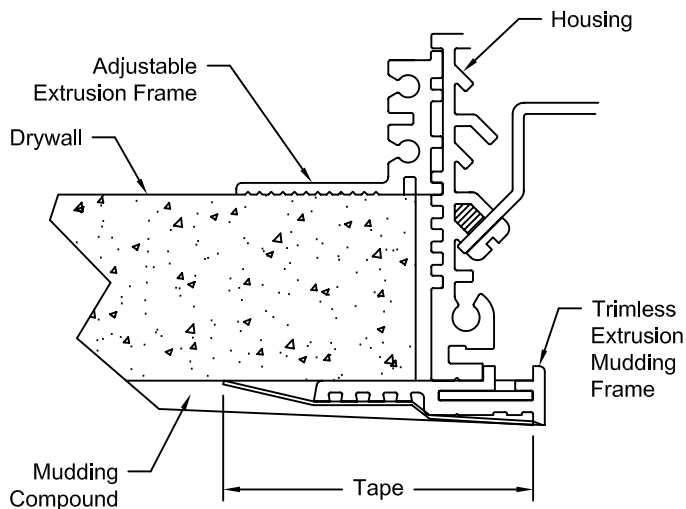

Figure 3
2. Adjust elevation of Housing so that Adjustable Extrusion Frame (set to 5/8" thickness at factory) will sit on top of installed Drywall and bottom of Housing walls match bottom of Drywall surface. See Fig. 3.
3. Install Drywall to edge of Housing. See Fig. 3.
5. Apply Tape to first level of Trimless Extrusion Mudding Frame. See Fig. 3.
6. Apply Mudding Compound from Housing concealing Trimless Extrusion Mudding Frame and Screws. Mudd out as far as necessary to achieve flat ceiling appearance. See Fig. 3.